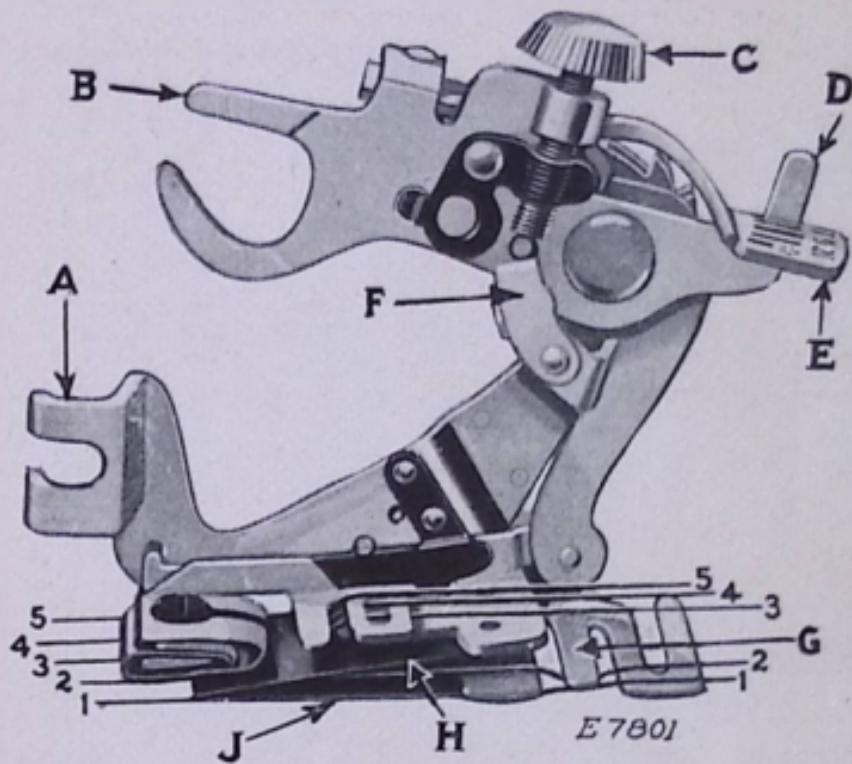
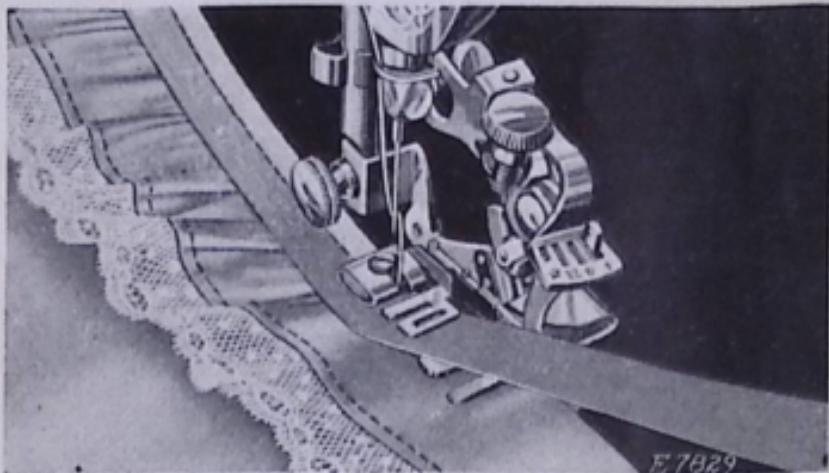
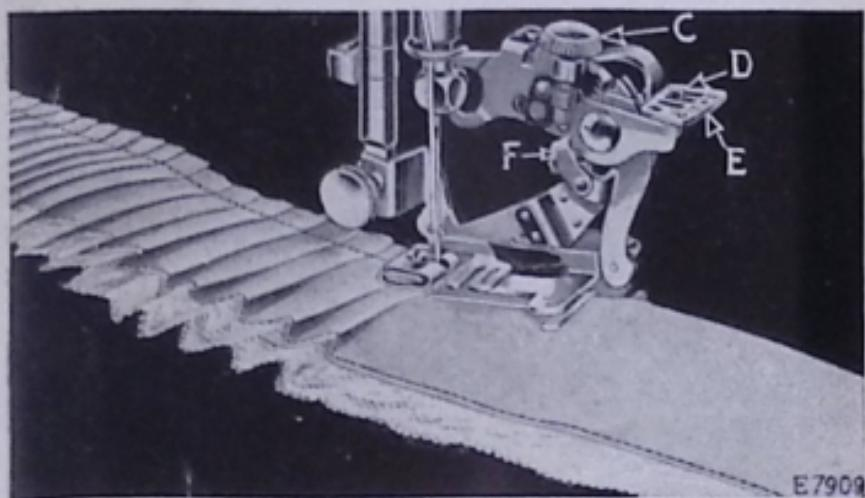

FIG. 42. THE RUFFLER AND ITS PARTS
FIG. 45
FIG. 47
Lines 1, 2, 3, 4 and 5 shown in Fig. 42 indicate where the material is to be placed for various operations, as follows:
Refer to Fig. 42 when inserting the material in the ruffler.
(SEE REFERENCES IN FIG. 42)
Raise the needle bar to its highest point and remove the presser foot. Attach the ruffler foot (A, Fig. 42) to the presser bar by means of the thumb screw, at the same time placing the fork arm (B, Fig. 42) astride the needle clamp as shown in Fig. 43.
Raise the adjusting lever (E, Fig. 43) and move it to the left so that the projection (D, Fig. 43) will enter the slot marked "1" in the adjusting lever (E) when the lever is released. The ruffling blade will then move forward and back once at every stitch. Insert the material to be ruffled between the two blue blades, following the line 2 in Fig. 42. Draw the material slightly back of the needle, lower the presser bar and commence to sew.
2, in Fig. 42. Place the garment to which the ruffle is to be attached, under the separator blade, following the line 1, in Fig. 42. Proceed the same as for gathering.
Insert the material to be ruffled between the two blue blades, following the line 2, in Fig. 42. Place the garment to which the ruffle is to be attached, under the separator blade, following the line 1, in Fig. 42. Place the material for the facing over the upper blue blade, as shown in Fig. 45, following the line 3, in Fig. 42. The facing may be straight or bias material. If the facing is to be on the right side of the garment, place the garment and
Insert the material to be ruffled between the two blue blades, following the line 2, in Fig. 42. This
The material for piping must measure about $\frac{1}{4}$ inch wide when folded in the centre and is usually cut on the bias. Place the piping material in the ruffler, following the line 4, in Fig. 42, with the folded edge of the piping to the right. The material to which the piping and ruffling are to be sewn should be folded on the edge and inserted in the ruffler, following the line 5, in Fig. 42.
Raise the adjusting lever (E, Fig. 47) and move it to the right so that the projection (D, Fig. 47)
will enter the slot marked "6" in the adjusting lever when the lever is released. The ruffling blade will then move forward and back once at every six stitches. To adjust the ruffling blade to make a plait once at every twelve stitches, place the adjusting lever (E, Fig. 47) so that the projection (D) enters the slot marked "12" in the adjusting lever. Insert the material to be plaited between the two blue blades, following the line 2, Fig. 42. The size or width of plaits is regulated by the adjusting screw
(C, Fig. 47) and the adjusting finger (F, Fig. 47). To make a wider plait, move the adjusting finger (F) back or toward the needle and turn the adjusting screw (C) downwardly. To make a smaller plait, turn the adjusting screw (C) upwardly. The distance between plaits is regulated by the length of stitch.